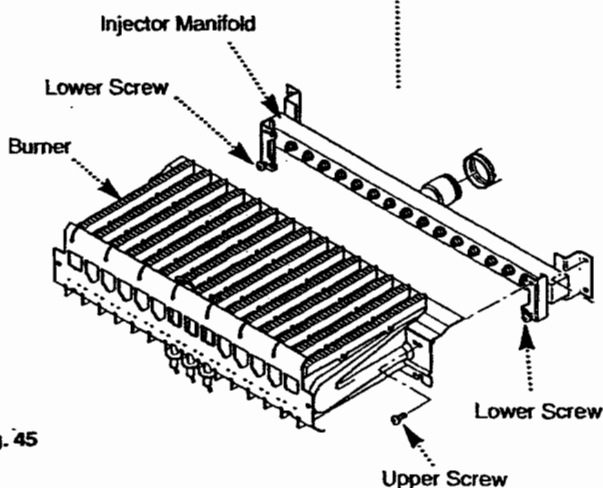

Fig. 45
8. Loosen the two lower screws securing the burner to the injector manifold (Fig. 45).
9. Remove the remaining two upper screws securing the burner to the injector manifold (Fig. 45).